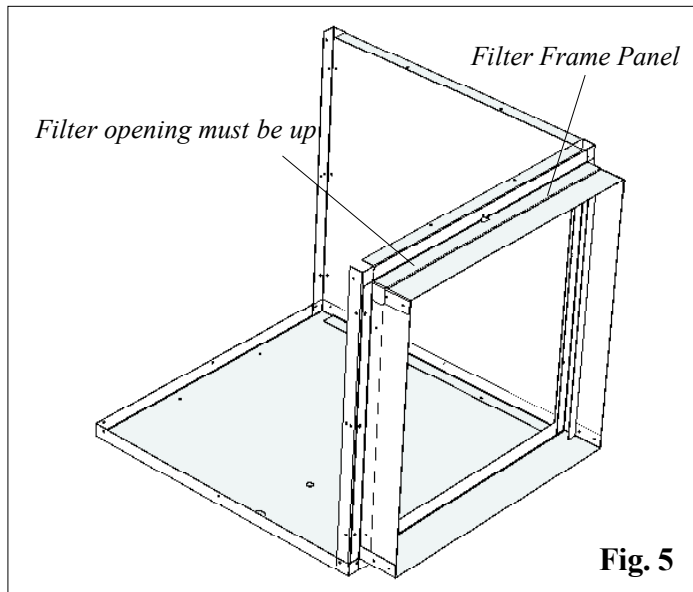
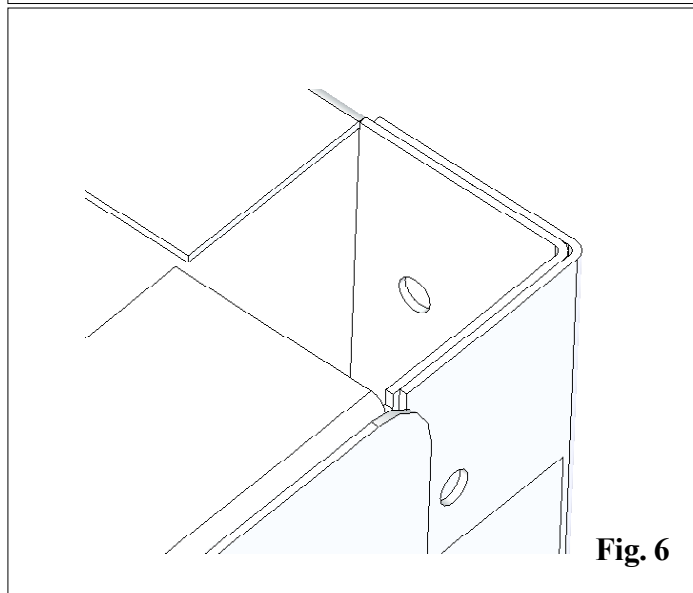

Fig. 5
Fig. 6
3. Place the filter frame panel inside the bottom and inside the solid panel corner. See Fig. 6 for corner detail. Make sure that the filter opening is up. See Fig. 5. Hold the filter panel to the solid panel with a Tek screw in the middle hole of the solid panel, and one in the bottom middle hole under the filter opening.